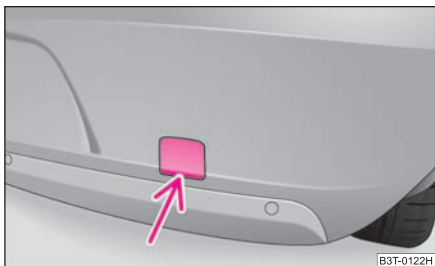

Fig. 210 Rear bumper:
- Press onto the bottom part of the cap in the rear bumper ⇒ fig. 210 and take it out.